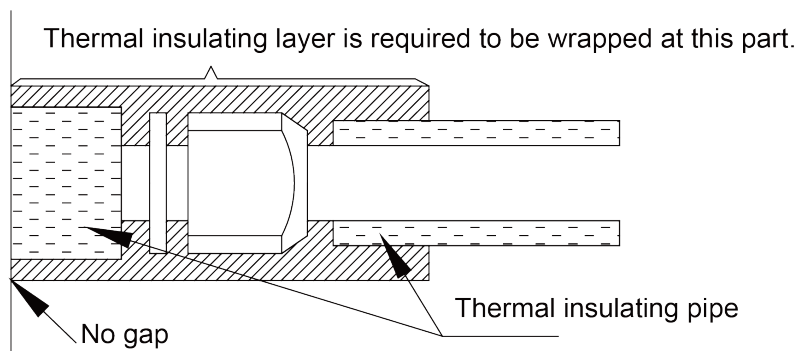

Fig. 18
- 4) Joints of indoor and outdoor unit should be wrapped with insulating material and leave no gap between pipe and wall. See Fig.18.